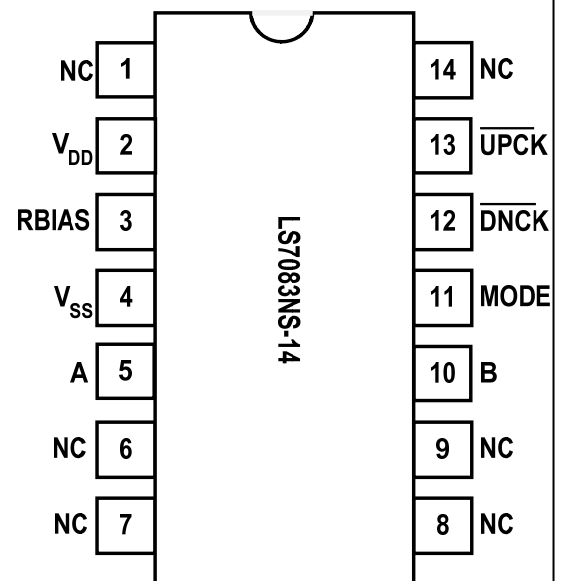

FIGURE 1.
- LS7083NS-14 (SOIC) – See Figure 1.